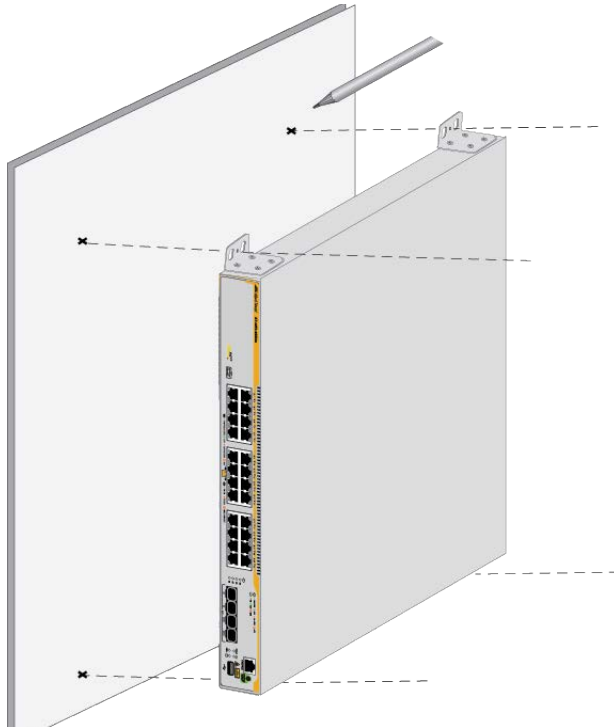

Figure 36. Marking the Holes on the Wall
6. Have two people hold the switch at the wall location, mark the holes with a pencil as shown in Figure 36 on page 69.